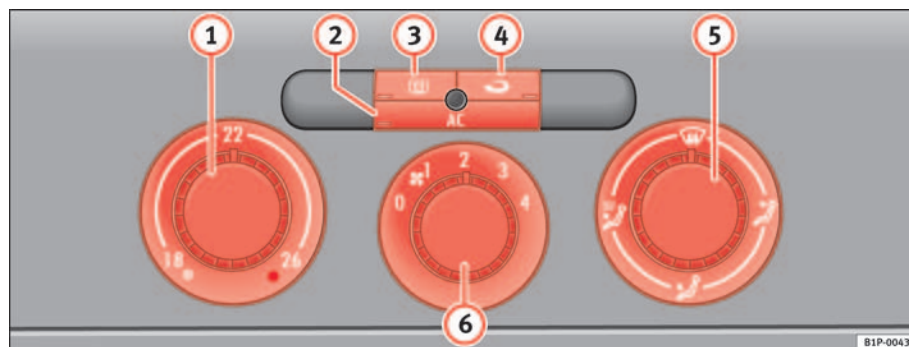

Fig. 104 On the dash panel: Climatic controls
- Using the controls ⇒ fig. 104 (1) and (5) and the control (6) you can set the temperature, air distribution and the air flow.
- To switch a function on or off, press the appropriate button (2), (3) or (4). When the function is activated, the display window in the lower left of the button is lit.
- (1) Temperature selector ⇒ page 139
- (2) Button (AC) – air conditioning system on/off ⇒ page 139
- (3) Button (☐) – Rear window heating. The heating will be switched off automatically approximately 20 minutes after switching on. It can also be switched off beforehand by pushing the button.
- (4) Button (↻) – Air recirculation mode ⇒ page 140
- (5) Air distribution control ⇒ page 139
- (6) Blower switch. There are four speed settings for the air flow. The air flow should always be set at the lowest speed when driving slowly.
- Switch on the air conditioner using the button ⇒ page 138, fig. 104 .